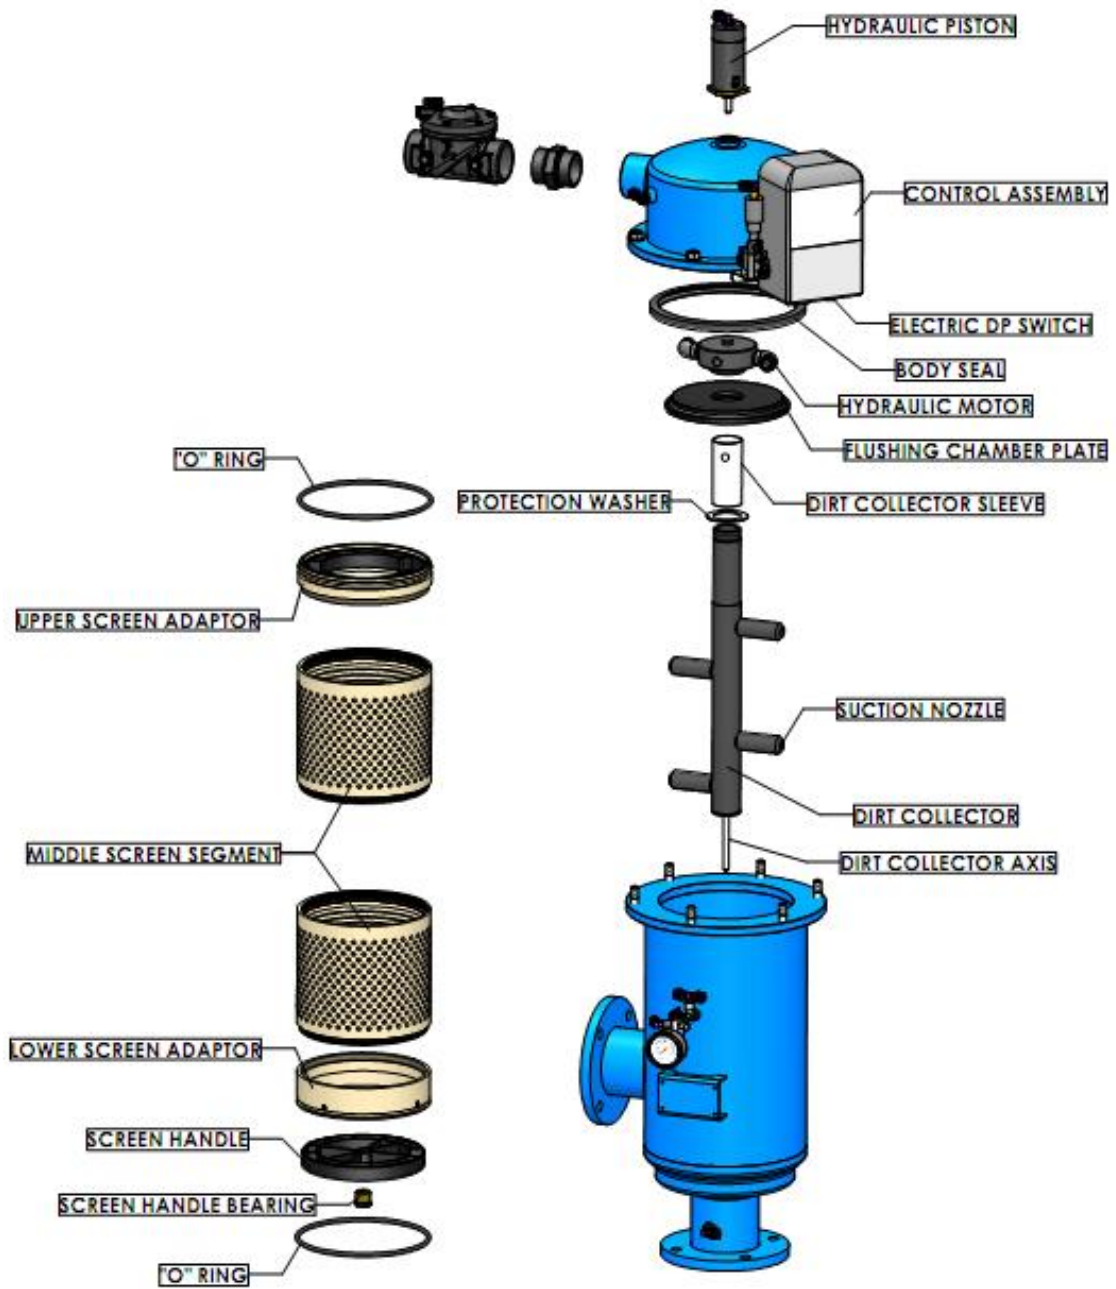

Figure 6: Coarse Screen Removal & Installation
4. Remove the six nuts and washers connecting both parts of the filter's housing (See Figure 6).
20. Connect the control tubes to the filter assembly housing (See Figure 6).